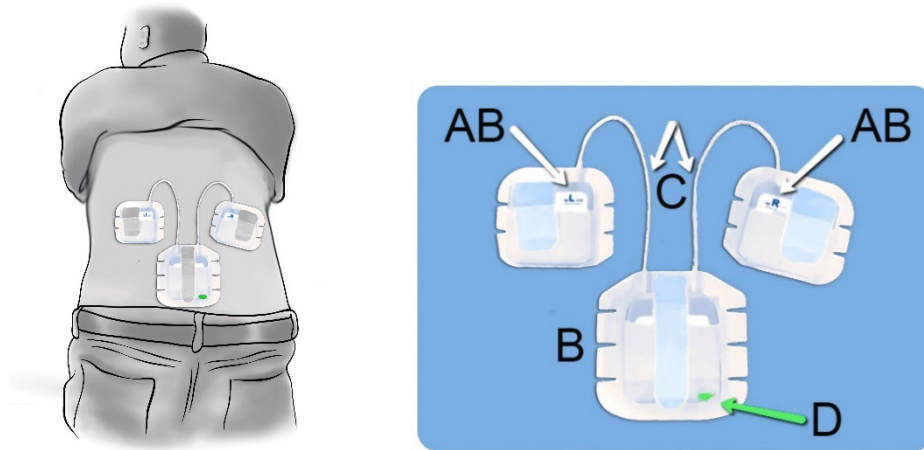

Figure 5: Attaching the C-Scan® Track to the back
- Insert the C-Scan® Track into the pockets on the stickers- the main unit in the lower pocket and the two smaller upper units, left and right (labeled **L** and **R**) in the upper pockets, as illustrated in Figure 5.